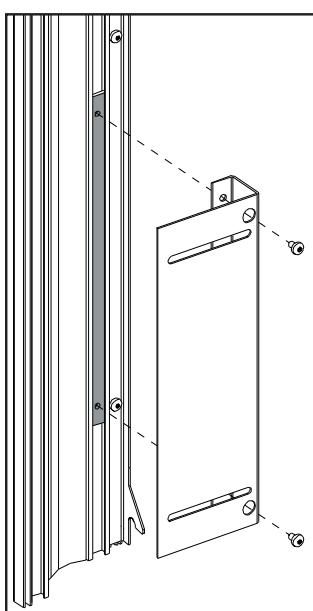

Figure 64: Installing Mounting Bracket.
- Fasten a mounting bracket to each of the four (4) mounting bracket backs using two (2) #8 T-20 screws (see Figure 64). They should be tight enough that they hold together but loose enough to slide them in the slots.